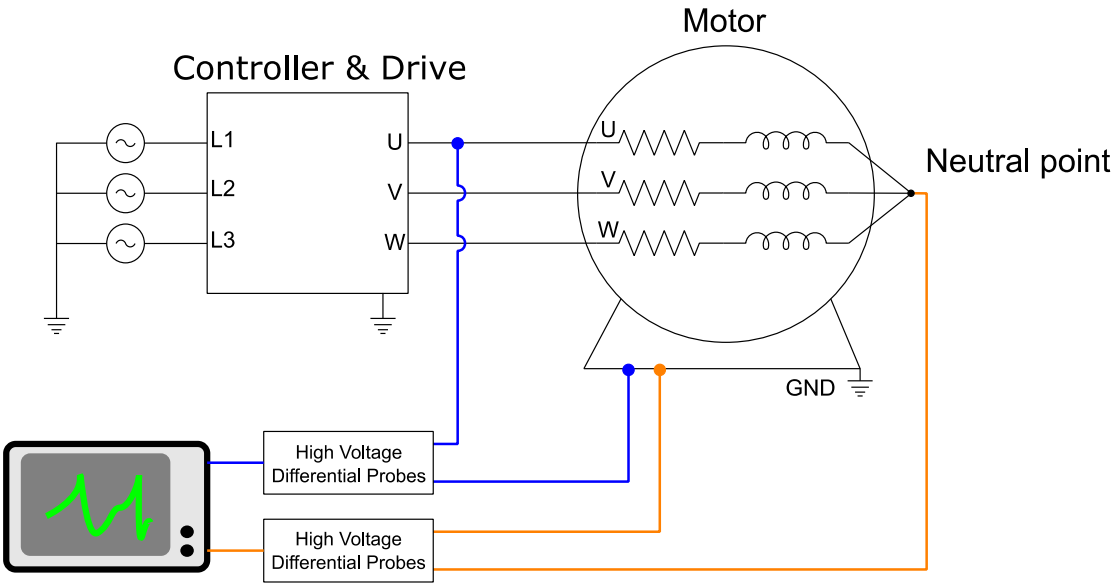

Figure 3.5.11 The wiring diagram of neutral point measurement.
- (1) Disconnect the power supply and protect it from being switched back on.
- (2) Wire according to the wiring diagram (Figure 3.5.11), and use a high-voltage differential probe to connect to the following two points: